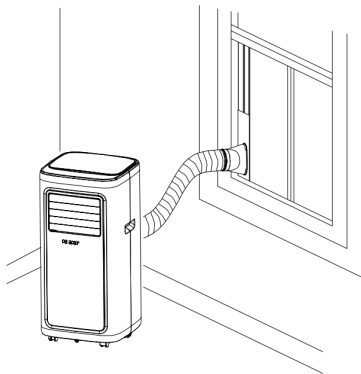
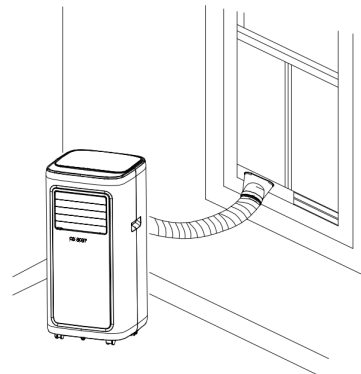

Figure 5
Figure 6
1) Elongate the exhaust pipe and snap the flat end of the exhaust pipe joints into the hole of the window sealing plate assembly (as shown in Fig.5 and Fig.6) .